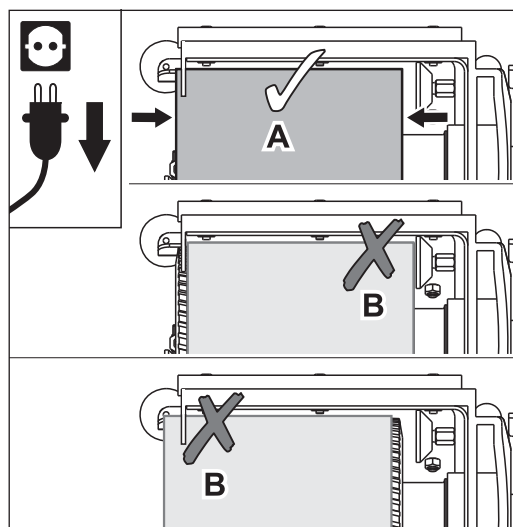

Fig. 31 Position the sanding belt so that it evenly covers the sanding drum (A). Avoid position B without fail (risk of fire)!
- 7 Position the sanding belt so that it evenly covers the sanding drum (Fig. 31, A).
**Position B of the sanding belt in Fig. 31 provoke sparking during sanding! Avoid this without fail!**